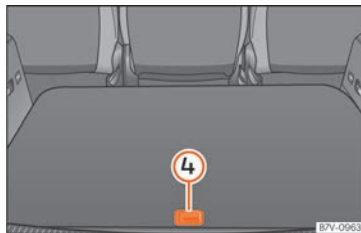

**Fig. 168** Other compartments in the boot floor.
- **Opening:** use the handle to lift the rear part of the luggage compartment floor » **Fig. 168** (4).
- **Closing:** fold the hook away and press down on the rear part of the luggage compartment floor (4).